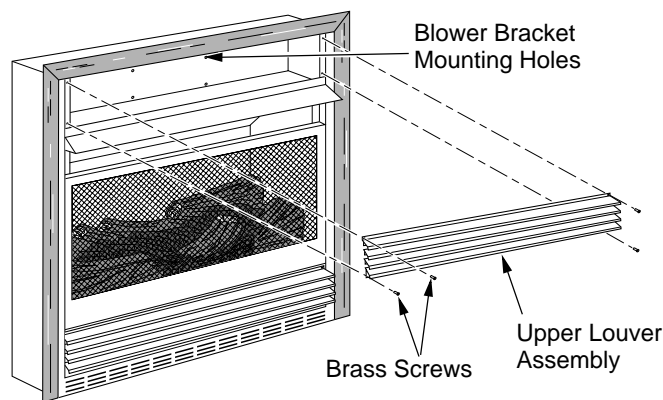
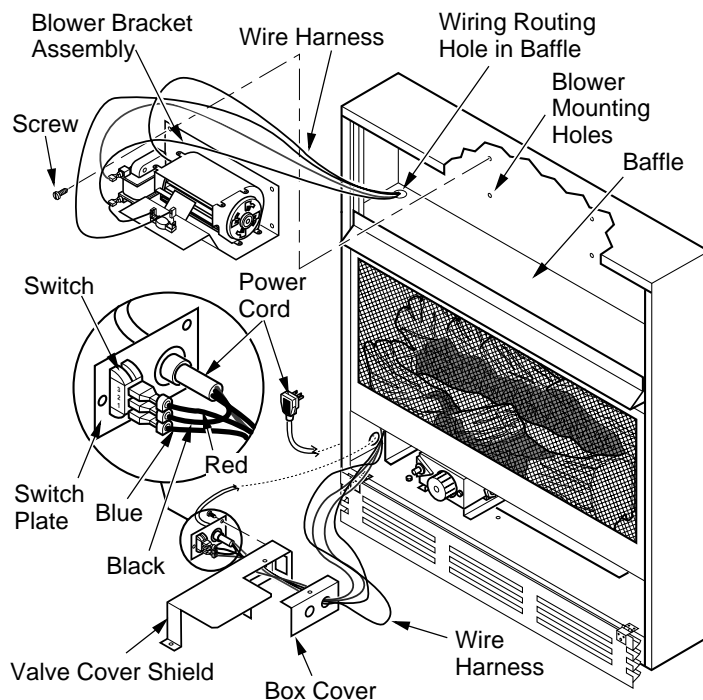
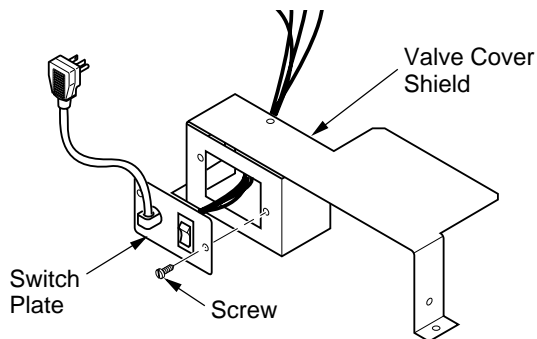

Figure 21 - Removing Upper Louver Assembly
Figure 23 - Installing Blower Bracket Assembly
Figure 25- Installing Switch Plate to Valve Cover Shield
1. Remove 4 screws from upper louver assembly (see Figure 21). Save these screws.
3. Note the wire locations on back of AUTO/OFF/ON switch. The terminals on back of switch are numbered 1, 2, and 3. Carefully remove red wire from terminal 3 and blue wire from terminal 1. Black wire can remain on middle terminal 2 (see Figure 23).
5. In top of the fireplace cabinet, locate the four mounting holes on the outer casing. Align these four holes with those on the blower bracket assembly. Attach blower bracket assembly to the outer casing with 4 #10 screws provided (see Figure 23).
6. Route the wire harness through the hole in left side of baffle. Pull wire harness through lower opening above where the valve shield was removed. (see Figure 23).
- Insert the 4 wire harness into one of the round holes in the rear of the valve cover shield and through the rectangular hole in the front of shield (see Figure 23, page 15).
- Install the switch plate on the valve cover shield with 2 #10 screws provided (see Figure 25). Reinstall the valve cover shield. Route power cord out of the cabinet by inserting it through the bushing on the outer casing (see Figure 23, page 15). Plug fan kit into 120-Volt grounded power supply and test operation. **Note:** When switch is in the AUTO position, the fan will start after the fireplace has run for a few moments. The fan will continue to run for several moments after the fireplace has been turned off. When switch is in the ON position, the fan will run until turned OFF. Reinstall upper louver assembly and hood if previously removed, (see Figure 21, page 14). Close lower louver door.
- Reinstall upper louver assembly and hood if previously removed, (see Figure 21, page 14). Close lower louver door.